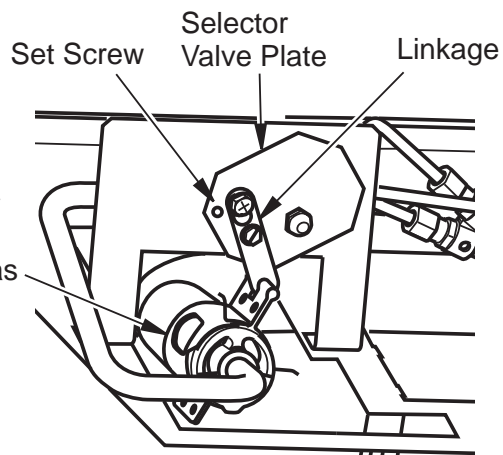

Figure 16 - Gas Selector Valve Plate
4. Remove set screw from selector valve linkage (see Figure 16, page 14).
4. Remove set screw from selector valve linkage (see Figure 16).